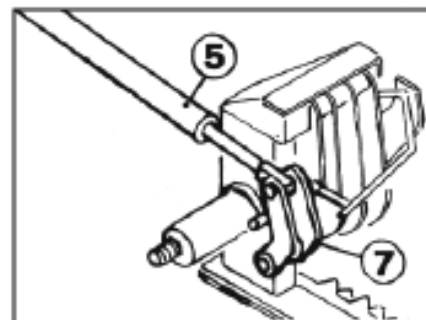

FIG. 3.4
5. For the models BFS 240/H, BFS 270/H insert hydraulic shaft position 5, figure 3.4 to link position 7, always in figure 4.